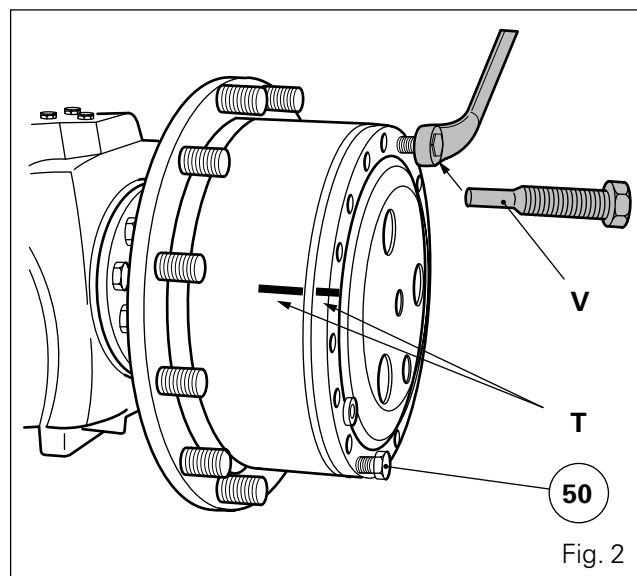
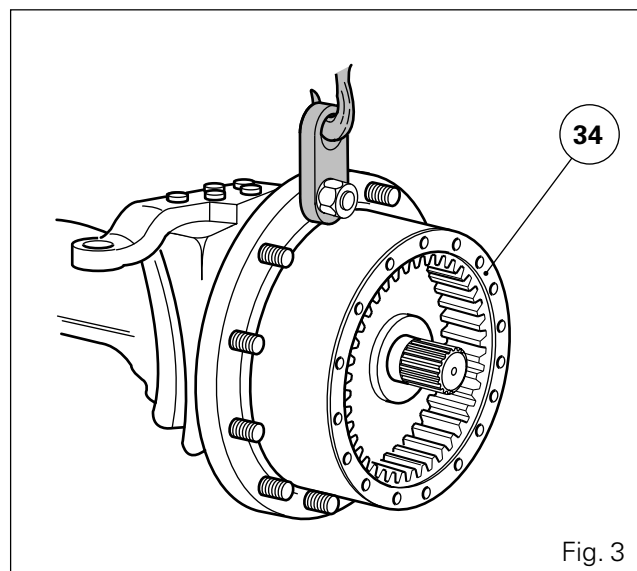

Fig. 2
Fig. 3
- The drain port machined into the planetary carrier (49) is aligned with a moulded cavity on wheel hub (34), in order to allow for the correct evacuation of the lubricating oil when draining. For this reason, the position of the planetary carrier on the hub must be located by two opposing paint marks **T** before disassembly (Fig. 2).
5. Remove bolts (50) and separate the planetary carrier assembly from the hub using two extractor bolts "V", ref. 5870 204 016 (Fig. 2 and § J).
6. Take off snap ring (46), sun gear (45) and tab washer (44).
7. Correctly unlock the two castellated nuts (42) and successively unscrew them using socket, ref. 5870 401 082 (see § J). Discard the retainer (43).
8. Extract the wheel hub (34), crownwheel carrier (40) and crownwheel (41). Remove the assembly using a lifting device (Fig. 3). Where necessary, match and keep together bearing cones (33) (38) and bearing cups (36) (37).